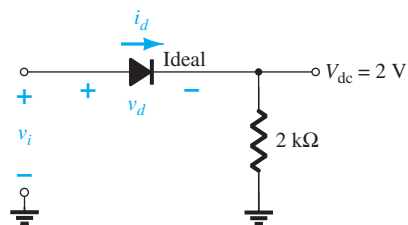

FIG. 2.168
22. Assuming an ideal diode, sketch v_i , v_d , and i_d for the half-wave rectifier of Fig. 2.168. The input is a sinusoidal waveform with a frequency of 60 Hz. Determine the peak value of v_i from the given dc level.